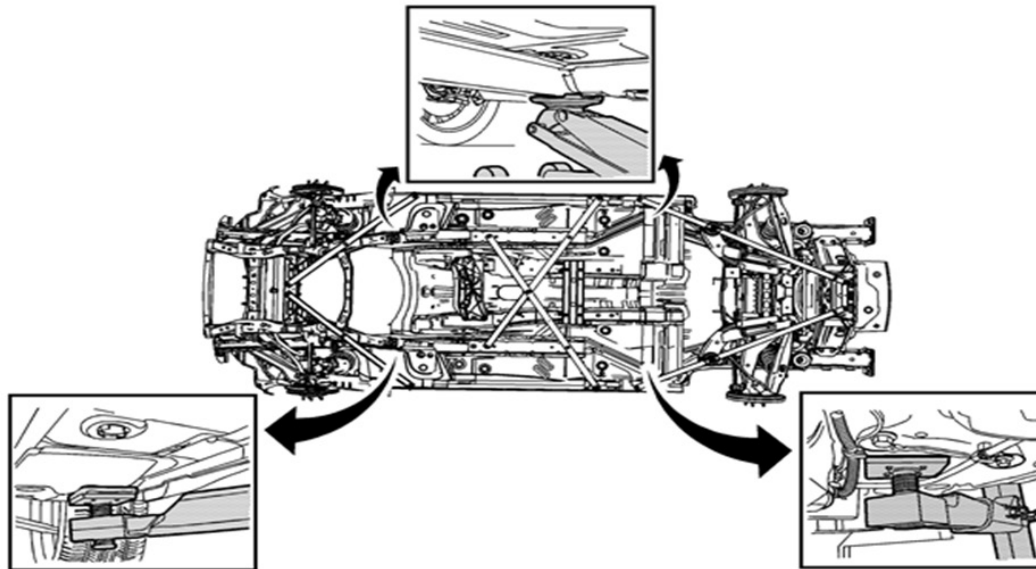

Figure 1
When lifting the vehicle with a frame-contact lift, place the front lift pads on the front lower brackets, inboard of the rocker pinch weld flange and outboard of the front frame rail, at the torque box location, as shown (Figure 1).
When lifting the vehicle with a frame-contact lift, place the rear lift pads on the rear frame rail, at the torque box location, as shown (Figure 1).
- Under the front frame cross member, as shown (figure 1).
When using a service jack under the rear of the vehicle place the jack pad on the rocker panel flange, at the torque box location, as shown (figure 1).